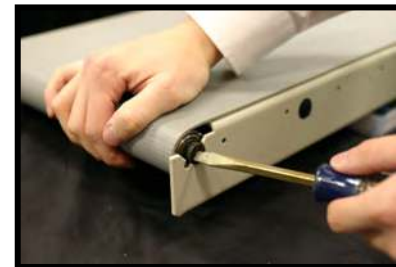

Figure 12
e. Once the Tail Pulley is in position, using a Tail Turning Tool or a wide Flathead Screwdriver, rotate the Tail Pulley clockwise until the Set Screw is in position. Then, rotate the Set Screw counter-clockwise until flush with the outside of the frame (Figure 12). The conveyor is now ready to be tracked as instructed in Section 3.02.